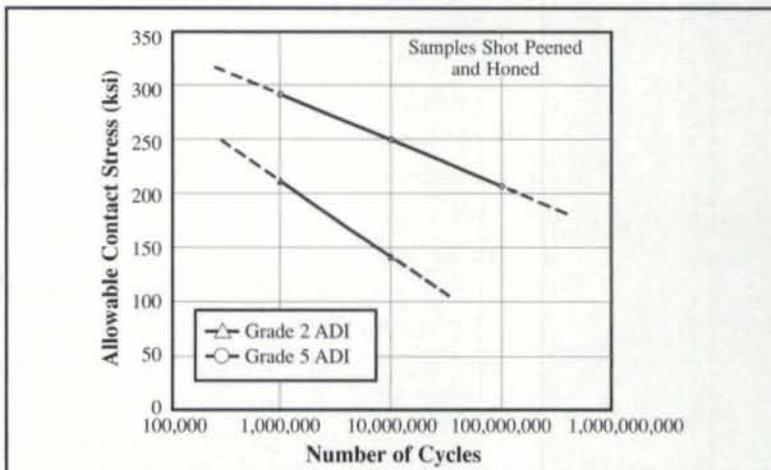

Fig. 4 — Contact fatigue (90% confidence limits). From ASME Gear Research Institute1.
Because the "ausferrite" matrix in ADI goes through a "strain transformation" under high normal stresses, the contact fatigue resistance also is excellent. It can be greatly improved by rolling, grinding and shot peening. Contact fatigue data for grades 150-100-07 (Grade 2) and 230-185-00 (Grade 5) are shown in Fig. 4. The data clearly shows that Grade 5 ADI can replace carburized and hardened steel in gear applications with contact stresses up to and in some cases exceeding 250 ksi.
**Positive Pressure Quenching.** The fast cooling rates required for certain grades of steels led to development of positive pressure quenching for vacuum furnaces. Quenching pressures up to 20 bar (290 psi), but normally 3 to 6 bar (44 to 87 psi) above atmospheric pressure, can yield the cooling rate improvements shown in Fig. 4, over sub-atmospheric cooling. (Atmospheric pressure is 750.1 torr or 1 bar and is acknowledged as absolute atmosphere, so that in practice a vacuum or negative pressure is any pressure below 750.1 torr (1 mm Hg), and any
**Fig. 4 — Representative improvements in cooling rates by the use of positive pressure quenching. (a) Effects of gas properties on the cooling of 25 mm (1 in.) diameter steel slugs. (b) Effect of gas velocity on cooling of 25 mm (1 in.) diameter steel slugs. (c) Effects of gas pressure on cooling of 25 mm (1 in.) diameter steel slugs. (d) Range of cooling characteristics in industrial furnaces.**